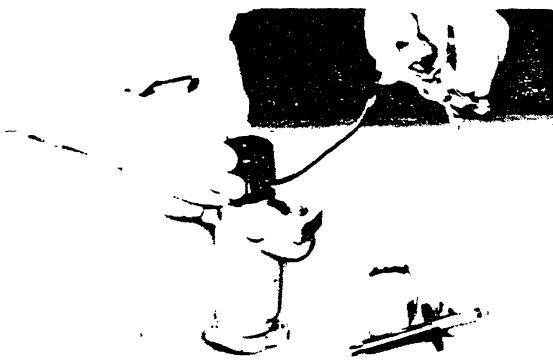

Fig. 5-17. Disassembling Detent Unit
Next, remove the guide and the magnet from inside cover (25) as shown in Fig. 5-17.